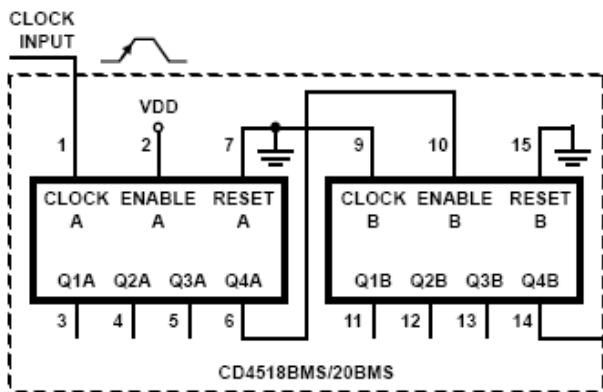

Fig. 2: Asynchronous 8-bit counter using both 4-bit counters in 4520.
The schematic shown in Fig. 2 is an asynchronous 8-bit binary counter made from cascading two 4-bit binary counters. This method of counting is asynchronous because the second 4-bit counter does not run on the same clock input; but instead indirectly run by the lowest frequency output of the first counter.
2. Detail schematic of each step. Again do not use the IC wiring diagram (with the exception of perhaps the 555). Following the example of Fig. 2